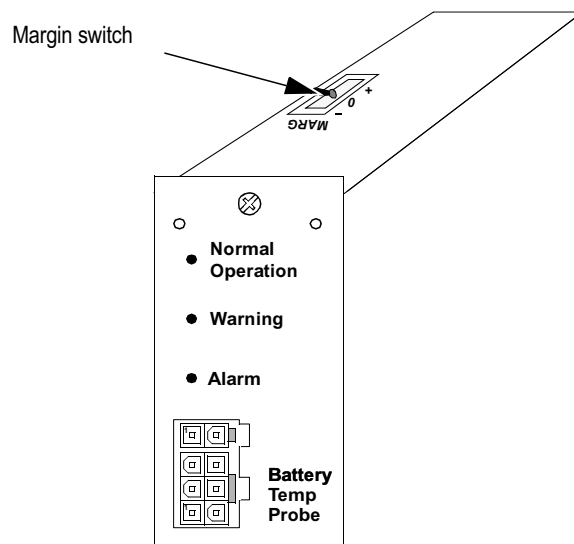

Figure 8-2 Position of the Margin switch
- Step 2 Unpack the PRU and locate the 3-position Margin switch on top, as illustrated in Figure 8-2.